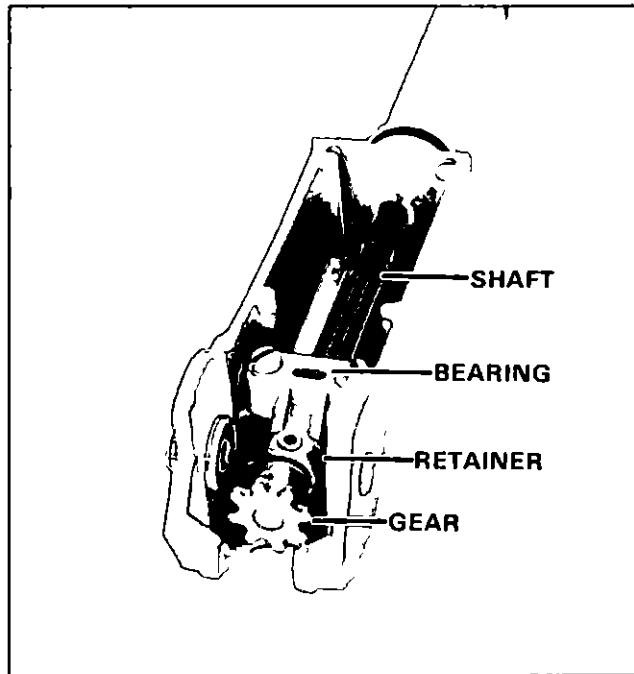

Figure 9. Assembling Steering Handle.
- C Slide shaft assembly (shaft, steering handle bearing, retainer, gear) into handle Figure 9